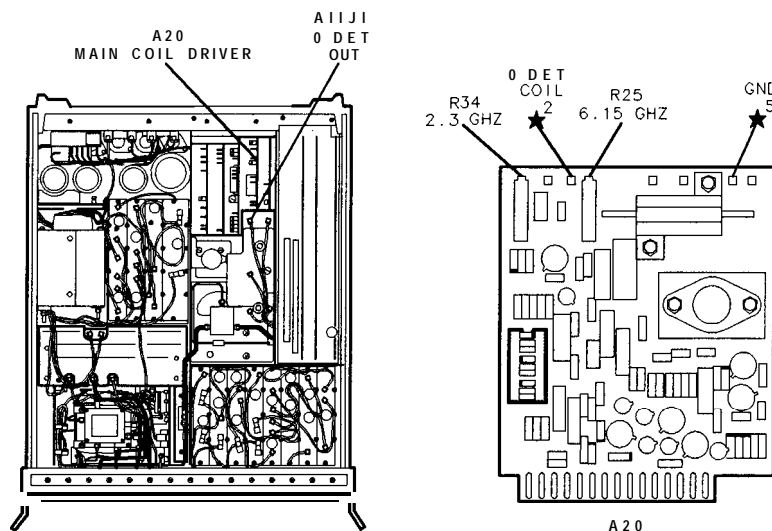

Figure 3-62. Location of YTO Main Coil Driver Adjustments
24. Adjust A20R34 2.3 GHz adjustment for frequency counter indication of 2300.0 f0.1 MHz, allowing time for frequency counter display to settle. Refer to Figure 3-62 for location of adjustments.